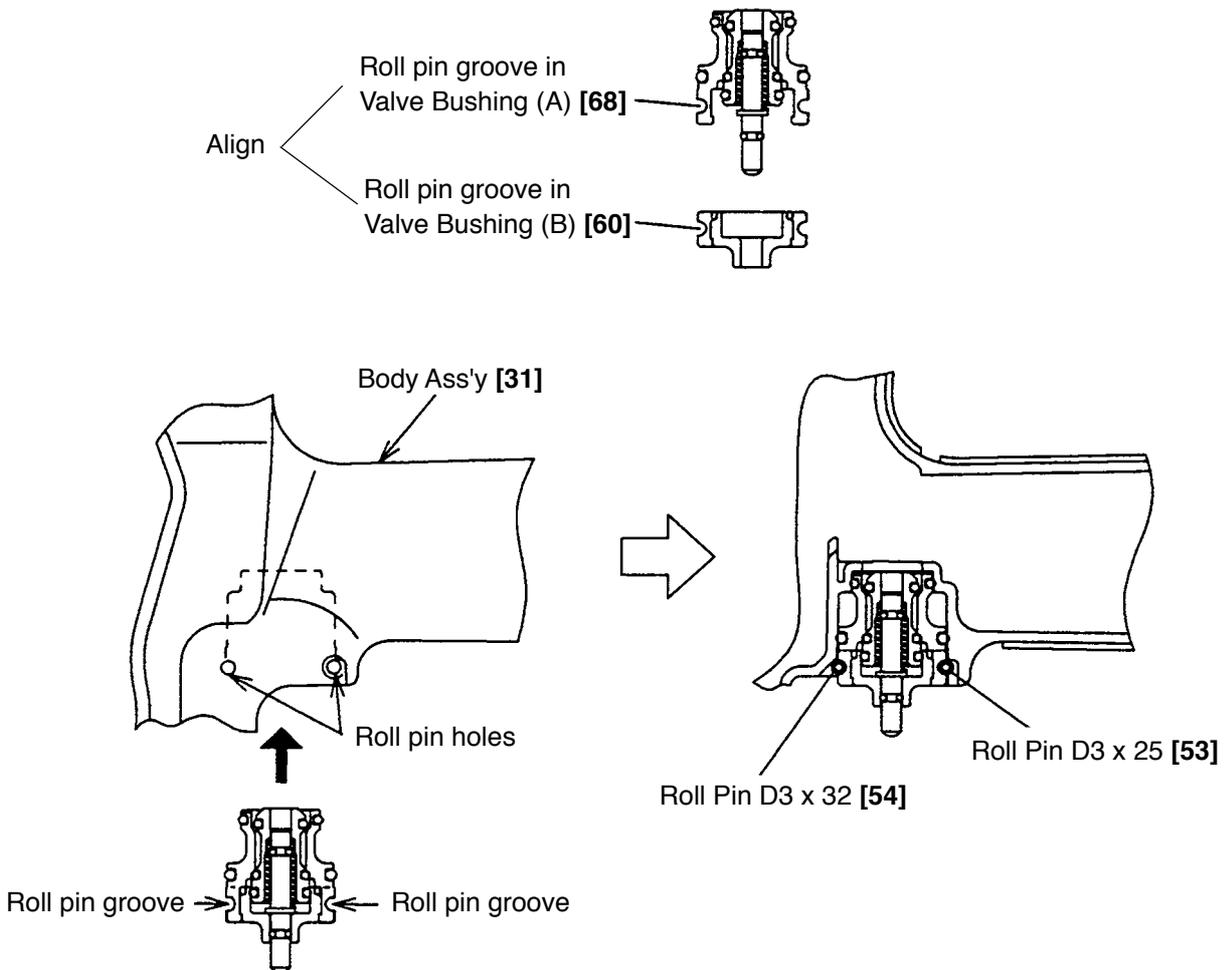

Fig. 17
- First, align the roll pin groove of Valve Bushing (A) [68] with that of Valve Bushing (B) [60] and reassemble the entire control valve unit as shown in Fig. 17. Then install the control valve unit so that the roll pin grooves in the control valve unit will be aligned with the roll pin holes in the Body Ass'y [31]. First, insert the roll pin puller (3 mm dia.) into the roll pin holes. Then, upon confirming that the puller passes through the hole, drive in the Roll Pins D3 x 25 [53] and D3 x 32 [54].